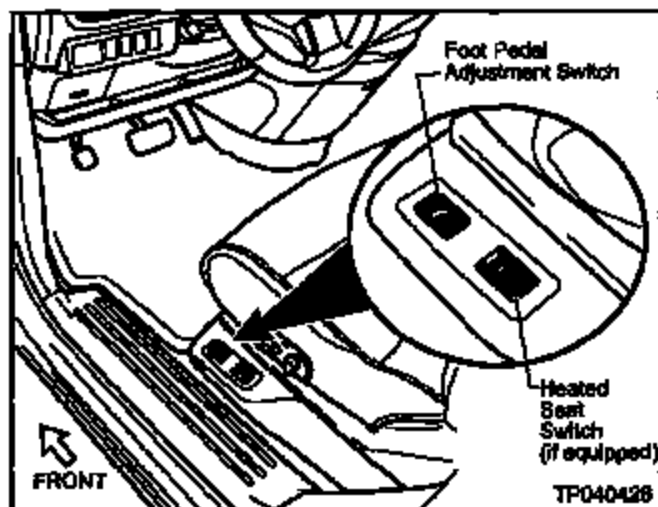

Figure F1
2. Use the Foot Pedal Adjustment Switch (see Figure F1) to move the Pedal Assembly all the way towards the FRONT of the vehicle.